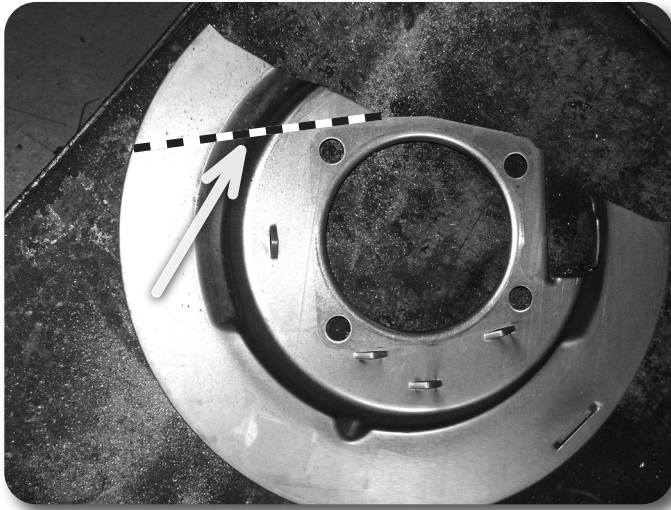

Figure 38
53. Locate the factory driver's and passenger's brake dust shields. They need to be modified to provided adequate brake caliper clearance. Make a cut line by following the straight edge on the caliper side of the shield all the way to the bottom edge of the shield. Figure 38 Cut the shield along the line.